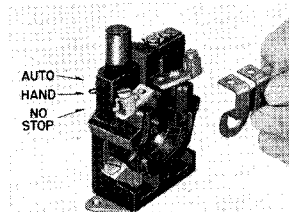

FIG. 1. Thermal Overload Relay, Showing Heater and Installation Method
3. The overload heaters are shipped in a separate carton. First check the heater marking (adjacent mounting holes) against the Heater Application Tables to see that the full load current marking of the motor nameplate comes within the current range of the heater. Install heater as shown in Fig. 1, making sure that heater mounting screws are tight.
The overload relay is furnished set for Hand reset operation. The relay may be set for Automatic reset, Hand reset, or Hand reset with no manual means of opening the contacts. The type of operation is determined by the position of the control spring in the notched pushrod; the respective positions (as illustrated in Fig. 1) are indicated by "Auto", "Hand" and "No Stop" as lettered on the back plate of the relay. Automatic reset should not be used with two-wire master switch.